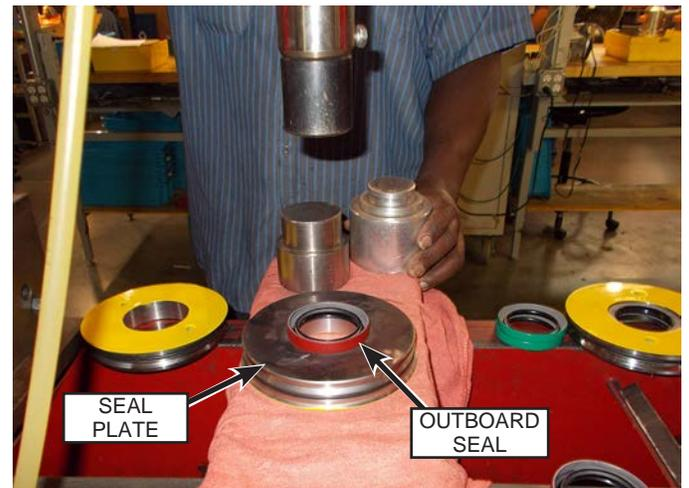

Fig. 127: Outboard Seal Installation
- Place the seal plate in a hydraulic or arbor press with the inboard side facing up. Place the red outboard seal into position and orient the seal as shown in Fig. 127.